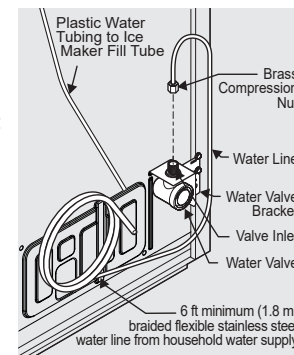

Figure 1
- 4 **If you use copper tubing**, slide brass compression nut, and then ferrule (sleeve) onto water supply line. Push water supply line into water valve inlet as far as it will go (1/4 in. / 6.4 mm). Slide ferrule (sleeve) into valve inlet and finger tighten compression nut onto valve. Tighten another 1/2 turn with a wrench; DO NOT overtighten. See Figure 1.